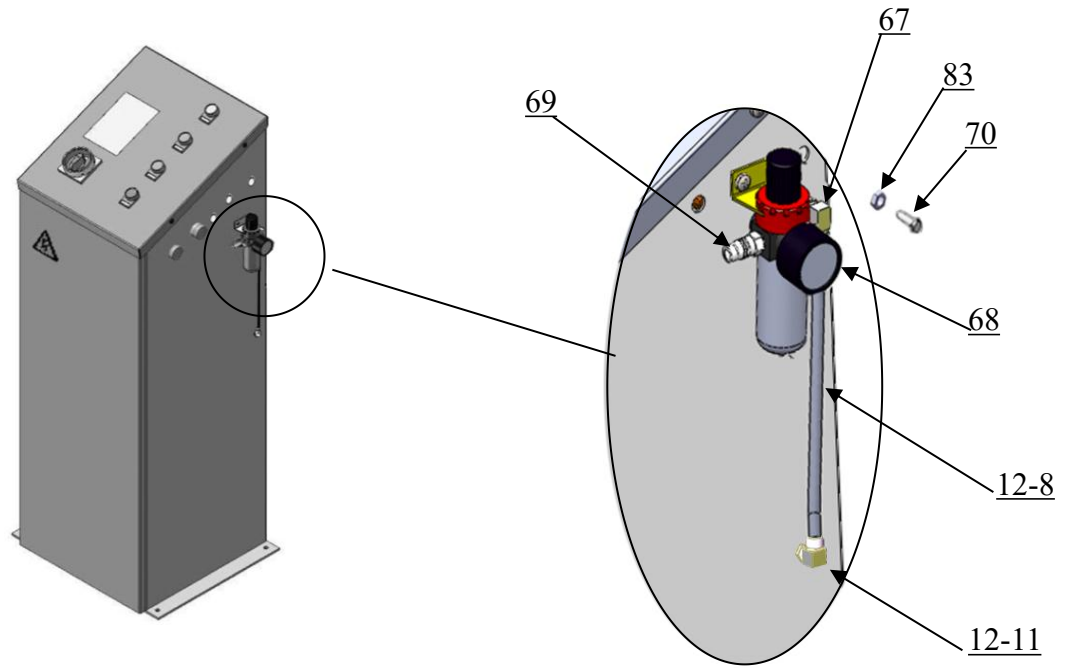

Fig. 25
3. Install the oil-water separator (See Fig. 25).